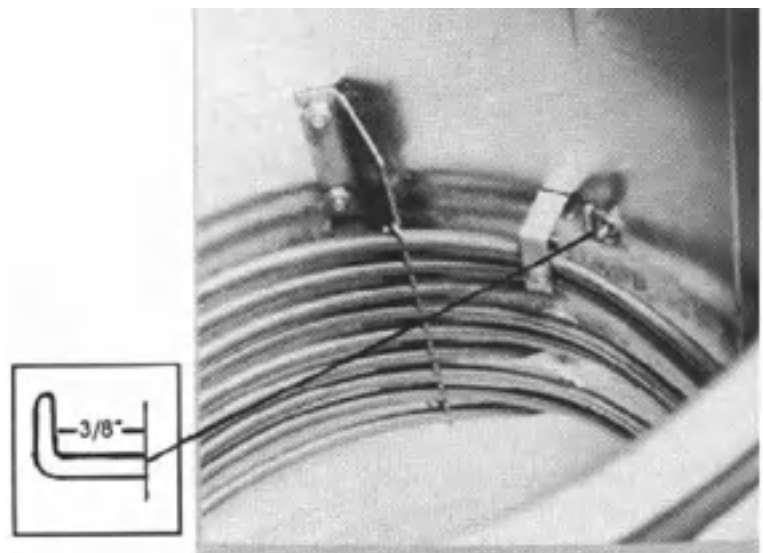

FIG. 9
12. **CAUTION:** Position of probe tip is critical. Align probe tip to where bend in probe occurs at 3/8" from fryer wall. Tighten compression nut using 9/16" open end wrench securing probe in place. (See Figure 9).
13. Replace the four (4) screws securing relay panel to side panels.
15. Replace the four (4) screws securing escutcheon to relay panel.
16. Replace the two (2) screws securing eyebrow to relay panel and place unit back into service.